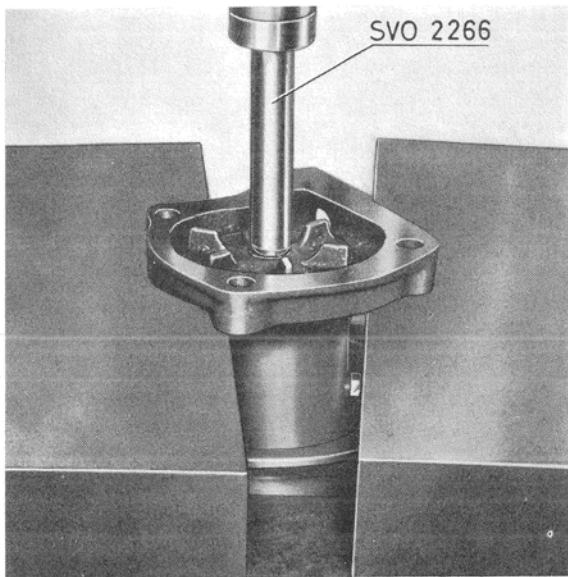

Fig. 74. Removing the impeller and shaft with ball bearing.
1. Remove the lock screw (3, Fig. 18) for the rear ball bearing. Press out the shaft by using tool SVO 2266, Fig. 74. Guide the pulley with your hand to avoid the shaft from binding. Remove the impeller. The ball bearing and the spacer usually come out with the shaft (if the ball bearings remain in the housing, remove the seal and then press out the bearings with the thick end of tool SVO 2266).